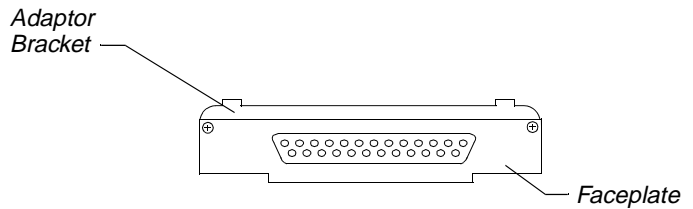

FIGURE 1. Removing the Adaptor Bracket
- For SPARCstation models 5, 10, 20, 1000, and 2000, you must remove the adapter bracket from the top of the card's faceplate. See Figure 1.